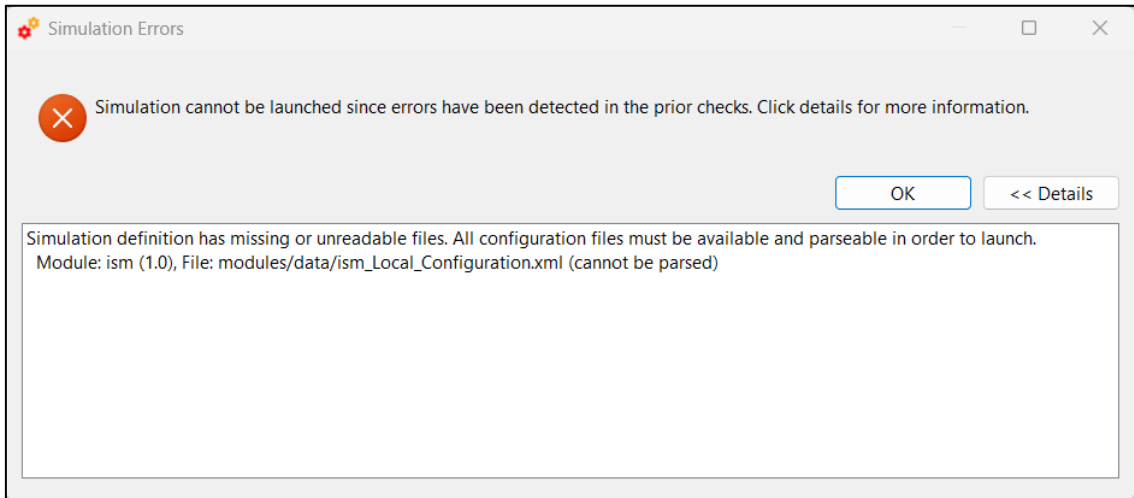

Figure 4-125: Execution prevented due to missing configuration files
- If the global configuration file for the simulation, or the local configuration file of any active module in the simulation is missing or cannot be parsed (e.g. due to an invalid LCF format), the execution will not proceed, and a blocking error dialog will be displayed listing the affected files as shown in Figure 4-125. In this case, the dialog does not allow the user to continue with the simulation execution, as a valid configuration is mandatory to ensure a consistent run.